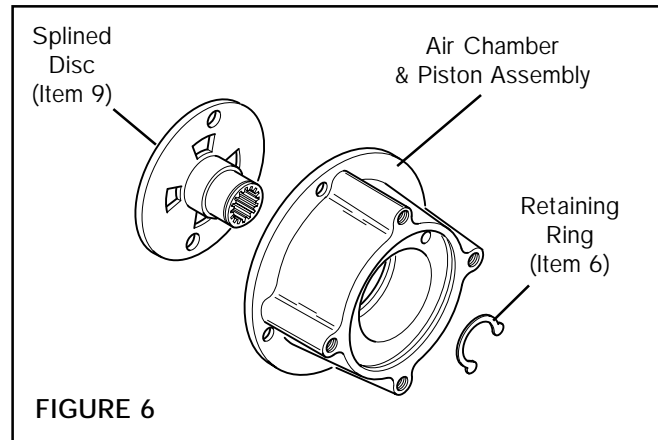

FIGURE 6
1. Compress Piston (Item 15) into Air Chamber (Item 13), then remove Retaining Ring (Item 6) securing Splined Disc (Item 9) inside Piston (See Fig. 6).
2. Press Splined Disc (Item 9) out of Piston (Item 15) (See Fig. 6).
15. Slide Splined Disc (Item 9) into Piston (See Fig. 6).
16. Compress Piston (Item 15) into Air Chamber (Item 13), then replace Retaining Ring (Item 6) (See Fig. 6).